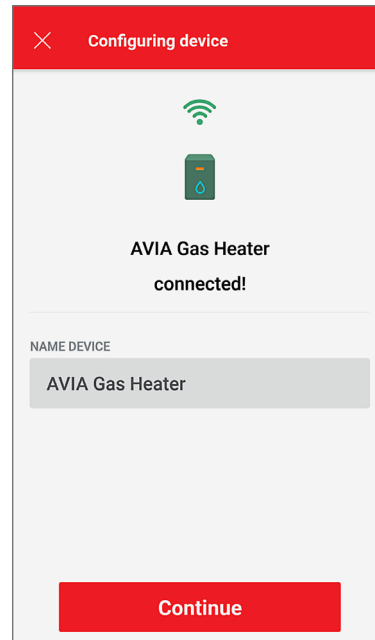

Figure 99. Device Name
1. Your device is now connected to Wi-Fi. You can change the name of your device here. See **Figure 99**.